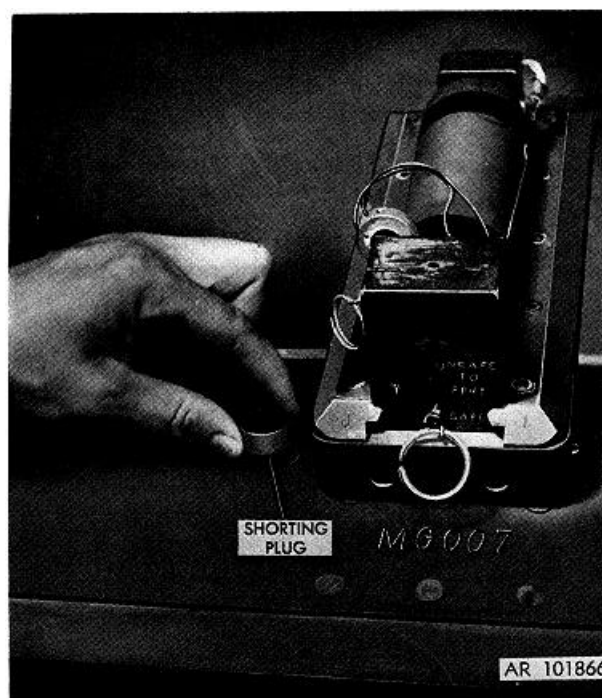

Figure 2-36. Removing shorting plug from socket.
c. Reach into accessory compartment, under the cover, and push shorting plug out of its seated position. Lift plug from its socket and place it in equipment box (fig. 2-36). Check socket from which shorting plug was removed to assure spring contact was not bent out of position. The spring contact may be inspected by locking in accessory compartment. Use shorting plug to assure contact is being made.